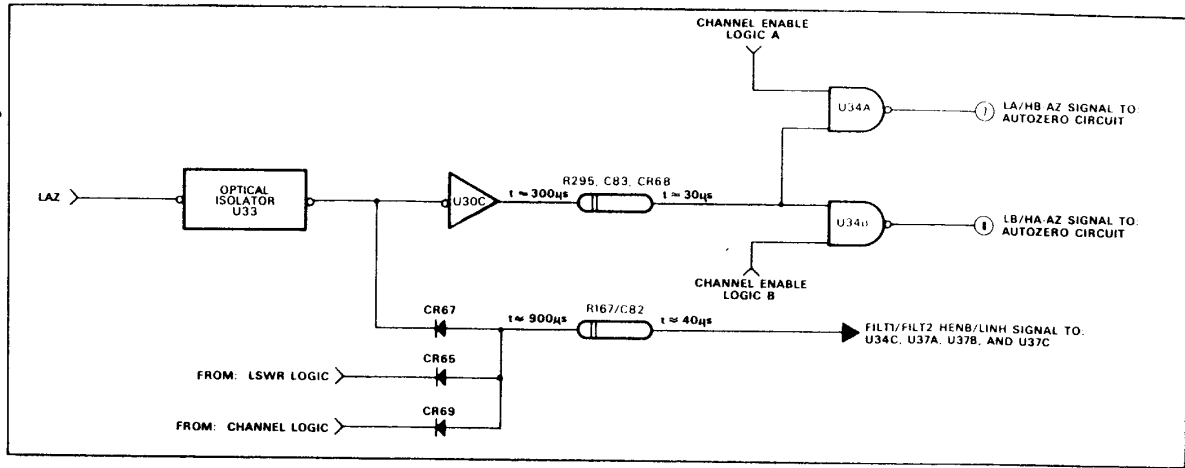

Figure 7-48. Channel A & B Autozero Logic Circuit, Simplified Schematic
c. Channel A&B Autozero Logic Circuit. This circuit inverts and delays the input LAZ (autozero) signal and gates it with a channel-select signal from the demultiplexer logic circuit. The circuit gating action produces Channel A and Channel B autozero control signals. The circuit also temporarily inhibits logic gates in the smoothing logic circuit when the LAZ input signal goes LOW. A simplified schematic of this circuit is shown in Figure 7-48.
The LAZ control line (Figure 7-48) is applied to optical isolator U33. U33 optically couples the LAZ signal to inverter U30C and diode CR67, which functions as an OR gate. CR67, when forward biased, causes NAND gates U34C, U37A, U37B, and U37C to become inhibited. The circuit action of the R167/C82 delay circuit is the same as described in subparagraph a., above. U30C inverts the output of U33 and applies it to the R295/C83/CR68 delay circuit. This circuit delays the signal 300  $\mu$ s and then applies it to NAND gates U34A and U34B. Only one of these gates, depending on which channel is selected, will be enabled at any one time. If Channel A is